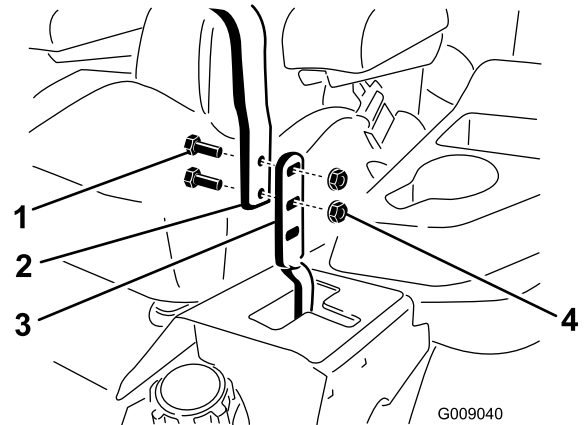

Figure 80
3. Loosen the bolts and flange nuts installed in the levers (Figure 80).